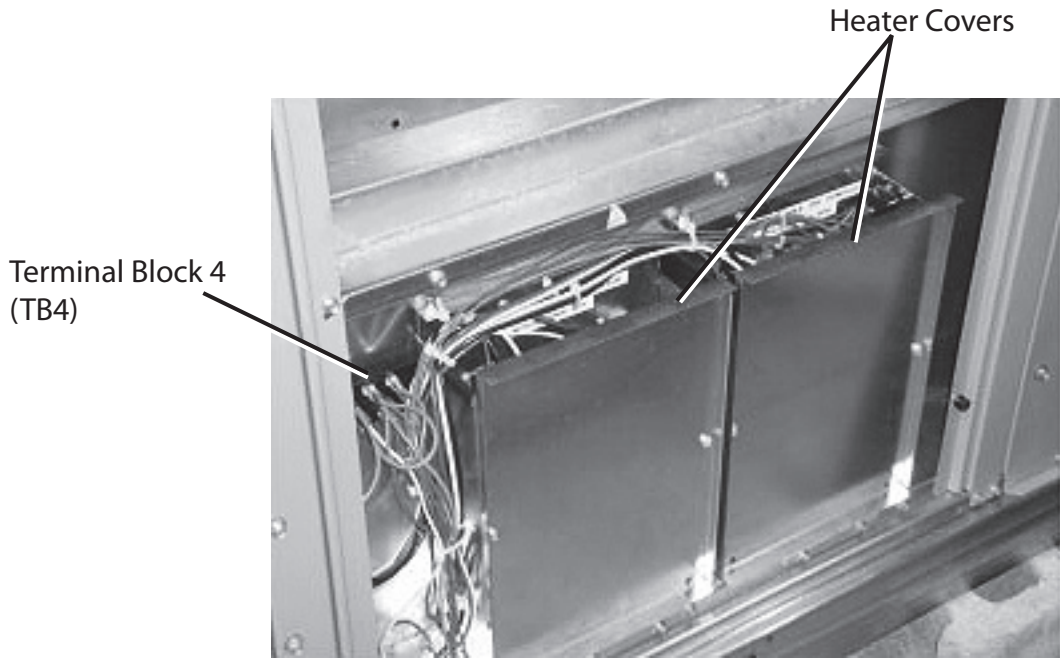

Fig. 44 - Heater Wiring and Covers
4. Fasten heater cover to heater module with 2 screws provided with heater. Flanges of cover must face out. (See Fig. 44.)